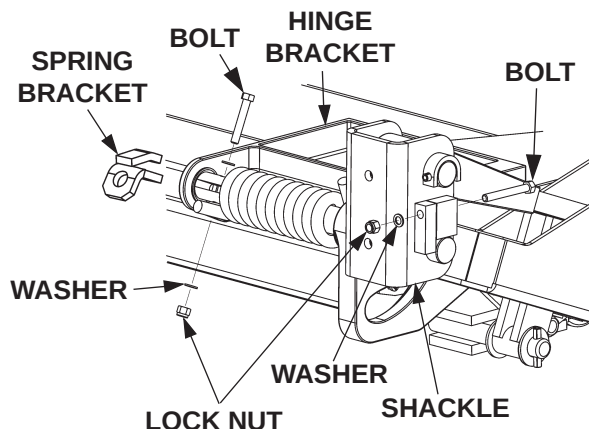
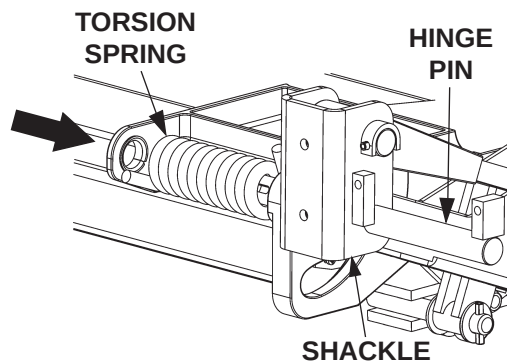

FIG. 20-1
FIG. 20-2
4. Unbolt Hinge Pin from Shackle and Spring Bracket (**FIG. 20-1**). Remove bolts, washers, and lock nuts. Drive the Hinge Pin outboard toward the Shackle just enough to free the torsion spring (**FIG. 20-2**). Remove the Torsion Spring.